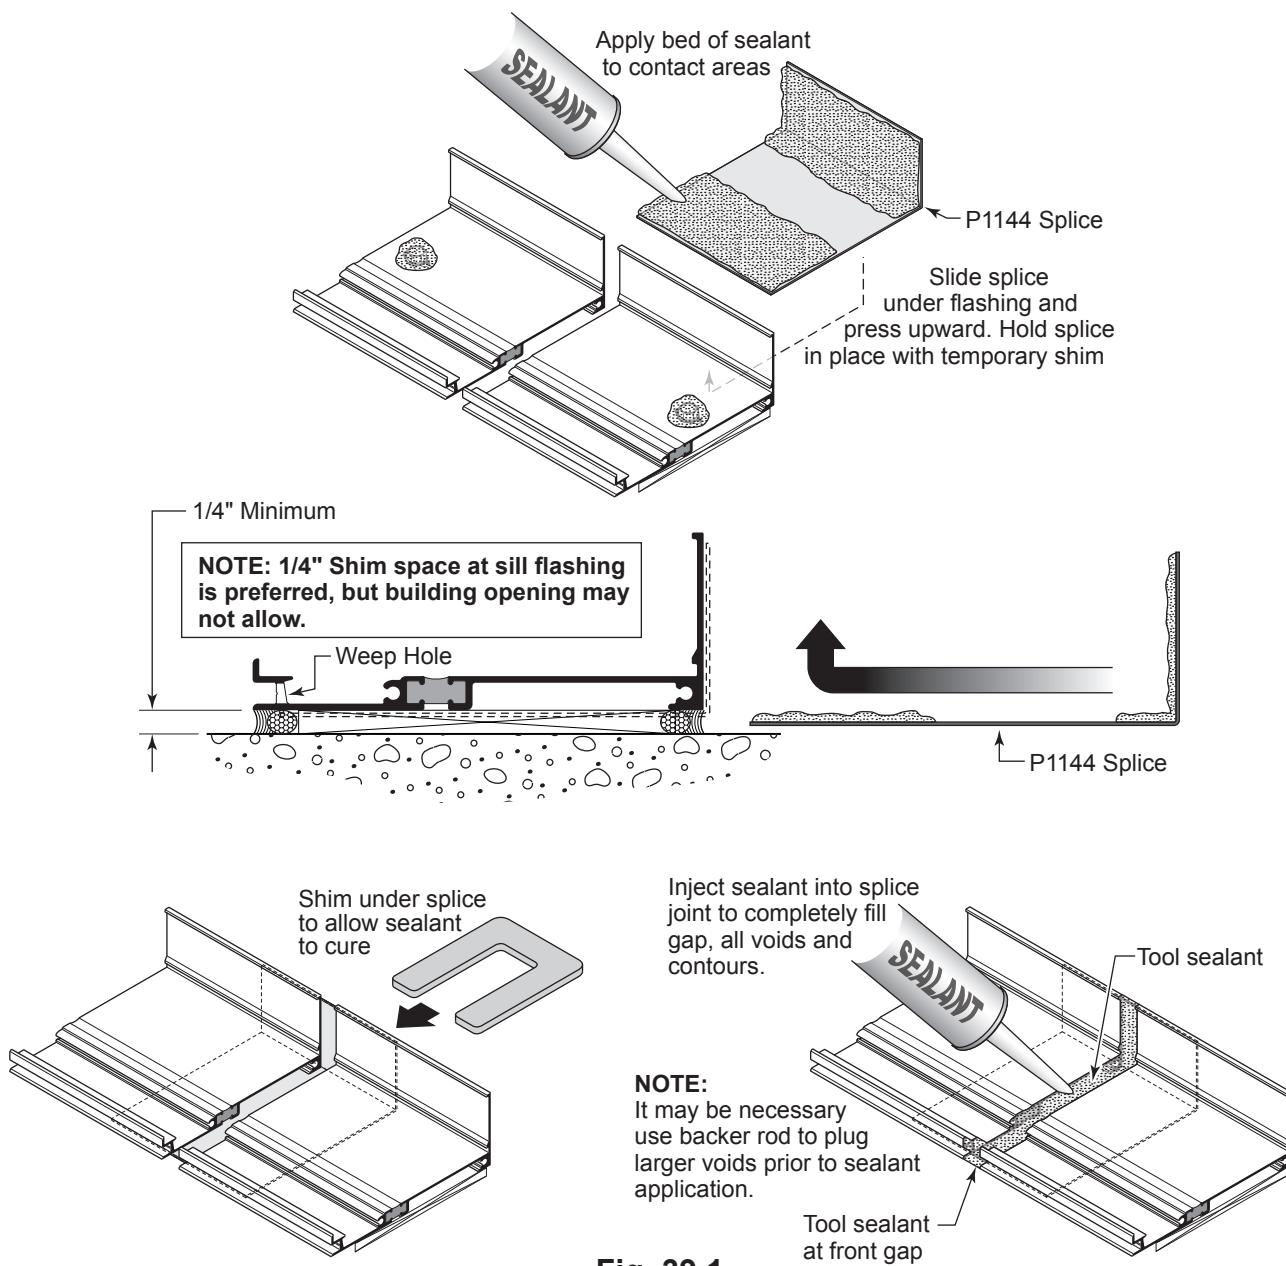

Fig. 39.1
Standard Aluminum Splice - Fig. 39.1
- Set P1144 splice sleeve in a bed of sealant under the sill flashing at the splice location as shown in Fig. 39.1.